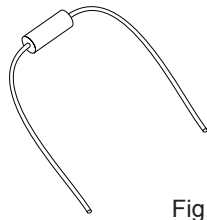

Fig. 25
1. The addition of a resistor (Fig. 25) allows the boiler to achieve higher flow temperatures for a given outside temperature when compared with the standard outdoor sensor.